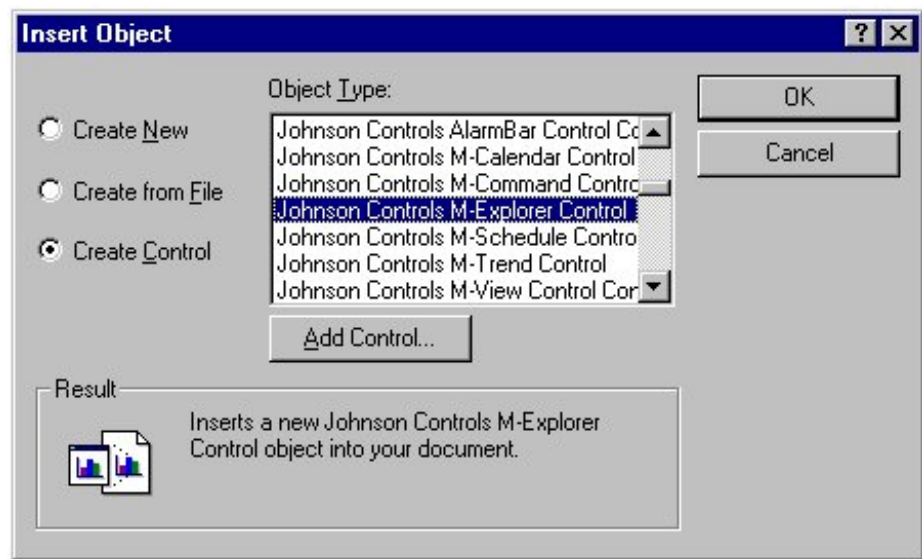

Figure 6-2: Insert Object Dialog Box
2. From the Edit menu, select Insert New Object. The Insert Object dialog box appears (Figure 6-2).